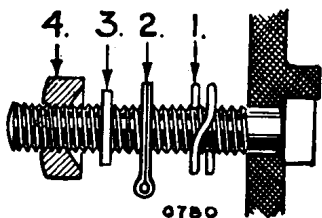

Fig. B.3
All four connections—namely, the two ends of the earthing tag and the two ends of the coil—should be soldered. The coil end leading to the terminal should be soldered to its tag and not to the retaining nut. In the case of the terminal screw which holds the bakelite cover in position, similar considerations apply, the assembly being—spring washer (1), wiring tag (2), lead washer (3), and recessed nut (4) (see Fig. B.3). A lead washer has been found necessary at this point as some few cases of bad connection have been found. Under no circumstances must the spring washer be omitted or the assembly shortened in any way. Any attempt to do so is likely to lead to breakage of the pedestal when the nut retaining the cover in position is tightened up.